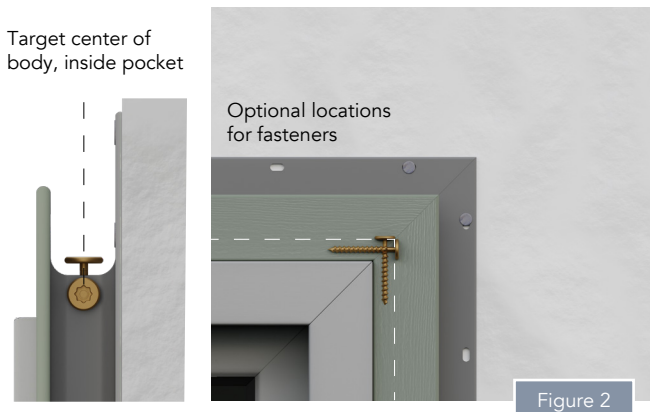

Figure 2
- To join the miter ends, mechanically fasten the joints together through the pocket at the miter, ensuring the fastener is long enough to penetrate the adjacent joint, but not go through. In addition to mechanically fastening the mitered joint, you can also use a PVC adhesive in conjunction with the fasteners, strengthening the miter joint. Make sure you clean the surface you are adhering together with alcohol, and do not allow the adhesive to get on the reveal surface (Figure 2).
- Mechanically Fasten the horizontal and vertical joints together. See Figure 2